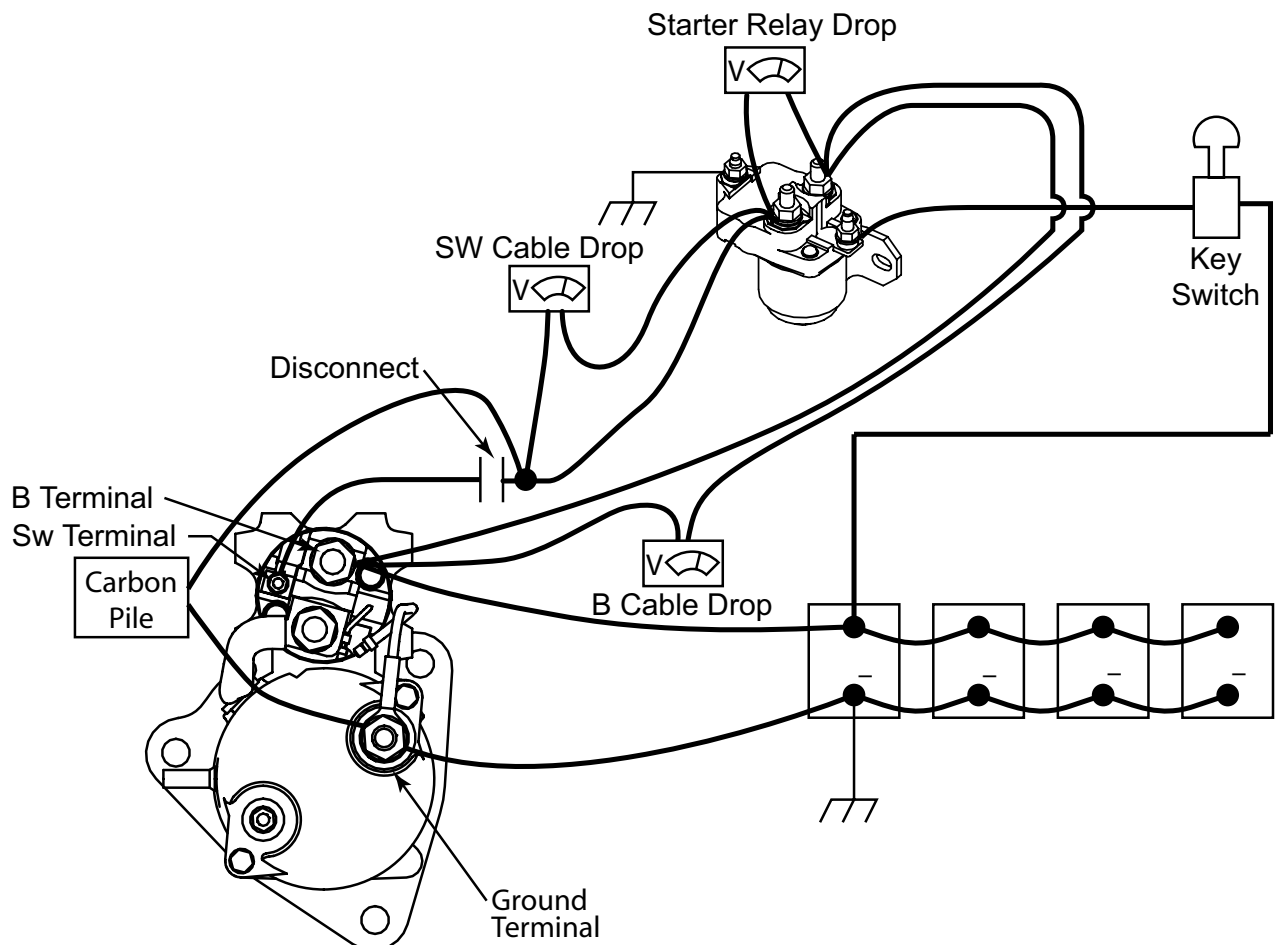

Figure 15: Step 4B – Starter w/o Integrated Magnetic Switch
- 2) Connect carbon pile load tester to starter's ground terminal and cable removed from starter's Sw terminal as shown in Figure 15
- 3) Using the wiring configuration in Figure 15, obtain: